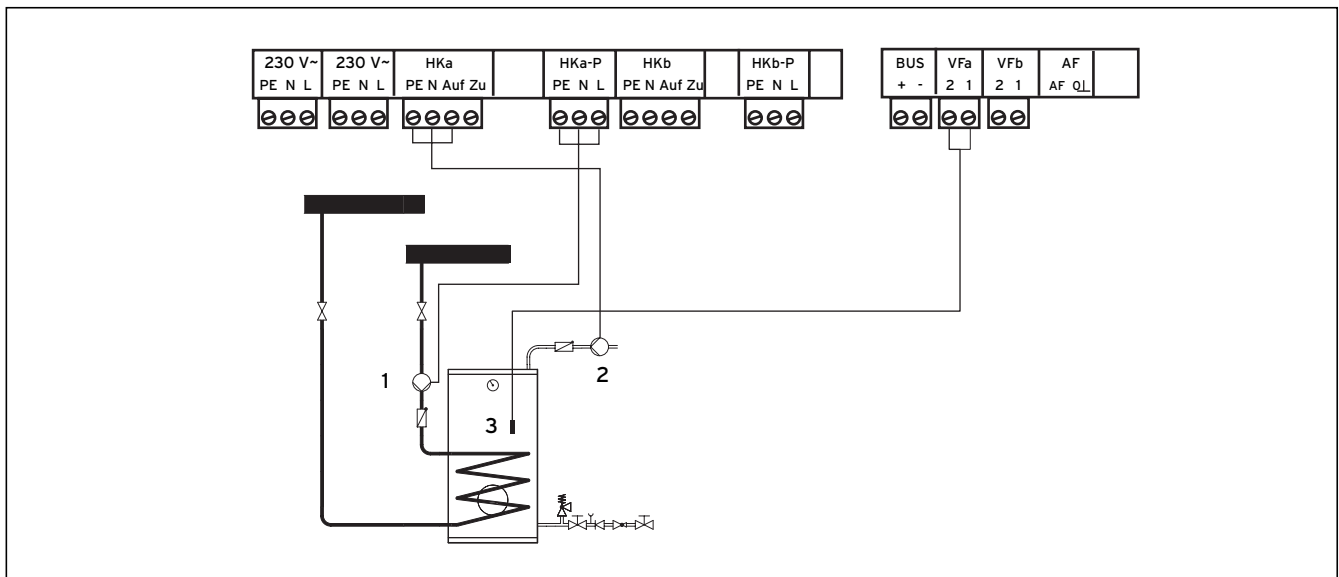

Fig. 5.2 Connection of a heating circuit as a cylinder charging circuit
- Wire up the VR 60 mixer module as shown in Fig. 5.2.